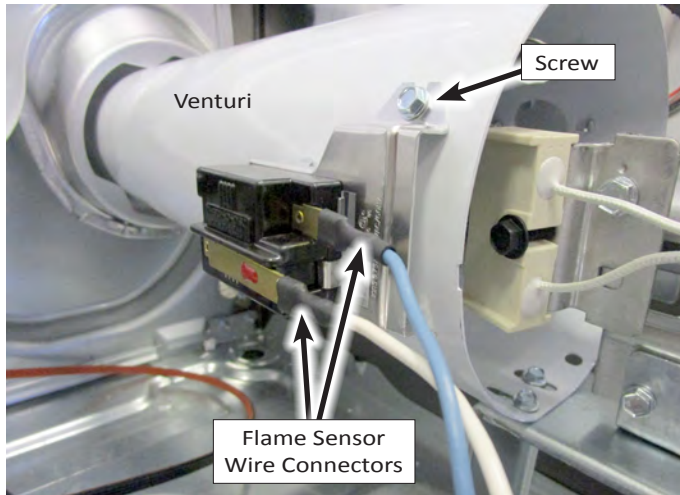

Figure 4 - Removing Flame Sensor
6. To remove the Flame Sensor (see Figure 4):
- Disconnect the two (2) wire connectors from the flame sensor terminals.